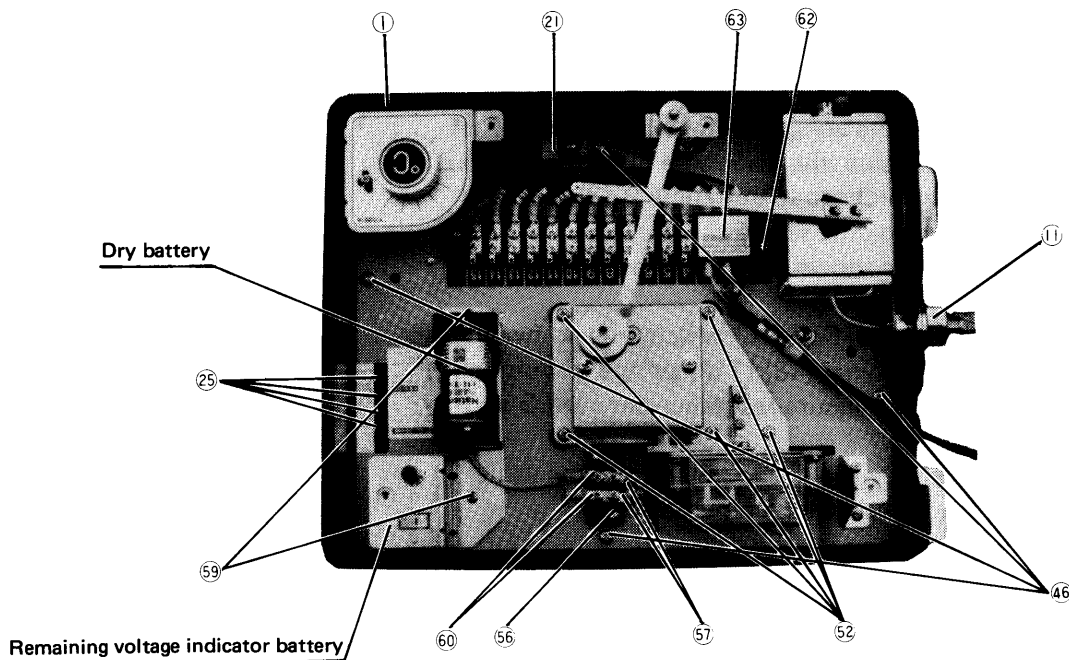
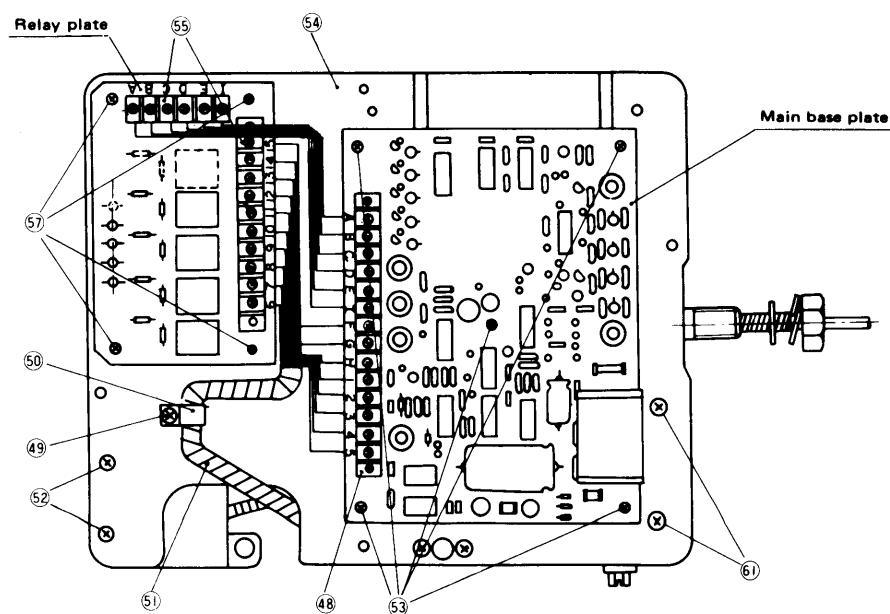

Fig. 3 Internal structure
Fig. 4 Internal device assembly
(1) Remove the recording plate from the body (1) (See Article b. (2)●) When it is removed, it looks as shown in Fig. 3. In this state, sensor, timer, remaining voltage indicator and battery and dry battery are replaced.
(2) Remove the internal device assembly. Loosen four hexagonal nuts (11) and screws (46) and remove the internal device assembly from the main body (1) and turn it back. Then it looks as shown in Fig. 4.
(2) Measuring resistance of the volume setter
- Adjust the volume setter as shown in Fig. 4 in accordance with Article D.(2).
- Remove the lead wires (3 pcs, F. G. H.) which are laid from the volume setter from the terminal (48) (14P) on the terminal strip of the main base plate and measure resistance between G and H of the lead wires.
(3) Replacing points
- From the state of the volume setter as shown in Fig. 4, loosen screw (49), remove power source plug (50), remove the spiral tube (51) from the wires. Then remove two screw bolts (52) and the volume setter can be removed from the base (54).
- After replacing the volume setter with a new one, inspect and adjust it in accordance with Articles c. (1). ① and c. (1). ②
② Main base plate
(1) Replacing standards
(2) Replacing points
- Adjust the volume setter as shown in Fig. 4 in accordance with Article D,(1).
- Remove the wires (14 pcs Nos A ~ H, 1 ~ 5) from the terminal strip (48) on the main base plate.
- Remove 5 screws (53) to remove the base (54) from the main base plate, so replace it with new one.
③ Relay base
- Adjust it as shown in Fig. 4 in accordance with Article D,(1).
- Remove the wires (14 pcs No. A ~ E, F ~ H, I, 1 ~ 5) from the terminal strip (55) on the relay base plate.
- Loosen four screws (57), and the relay base plate can be removed from the base (54). So replace the relay base plate with a new one.
④ Sensor
- In case the pilot lamps for functioning temperature (25) remain unlit although the power source is turned on.
- Remove the recording board, (state shown in Fig. 3). Loosen the screws (62) to remove protection board for impressed voltage (63) loosen terminal screws (Nos. 1 to 3) on the terminal strip (21) and remove the wiring. Then, measure temperature of the feeler part and resistance of the sensor and compare them with the characteristics of temperature resistance shown in Fig. 10, and if they do not accord with them, replace the sensor. If they accord, the main base plate or the volume setter is out of order. So replace it in accordance with Articles D,(2).① and D,(2).②
(2) Replacing method
- Since numbers (1, 2, 3. . .) are described on the sensor lead wires, so connect them to the terminals having the same number on the terminal strip (21).
- After replacement, inspect and adjust the sensor in accordance with Articles C,(1).① and C,(1).②
- Replace the recording board, and insert a battery so as not make a mistake in polarity as in the state of Fig. 3 (Fig. 3 shows polarity of a battery). It is advisable to use a battery similar to SUM-2 of JIS C8501 and R14 of IEC. (Dry battery DC1.5V)
② Remaining voltage indicator battery
- Remove the recording board (state shown in Fig. 3). Loosen two screw bolts (59) and two screw bolts (60), and the remaining voltage indicator battery can be removed from the indicator body. So replace it with a new battery.
- When replacing, connect the wires to the terminal strip (56) in a way red wire to red and black wire to black.
③ Timer (Quartz motor reducing gears)
- Although remaining voltage of dry battery is correct (confirmed in accordance with Article b. (2). ③) the quartz motor does not start.